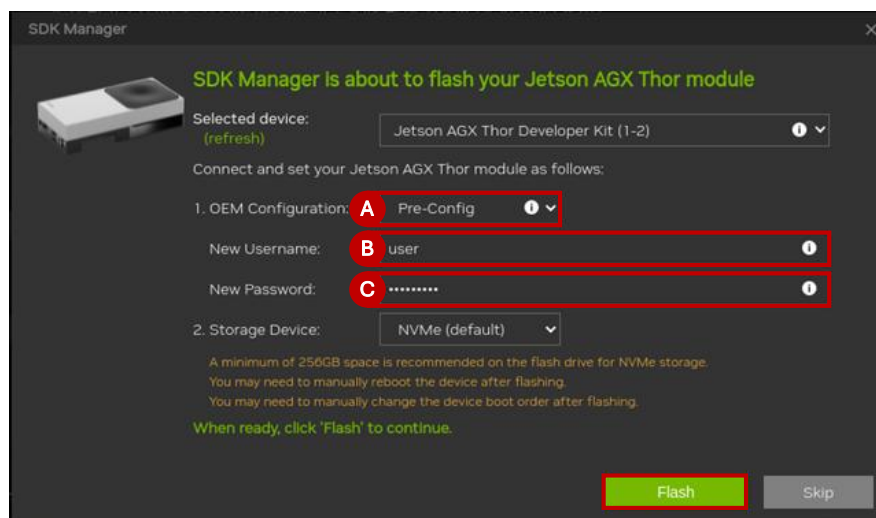

Figure 6.21. Pre-flash Operation Setup
12. In the setup configuration screen, select **Pre-Config** under the OEM Configuration (letter A) as shown in Figure 6.21. Enter the desired **username** (letter B) and **password** (letter C) to create the new user account in AGX Thor. Leave the **Storage Device** setting at its default value. Click **Flash** to begin the flashing process.